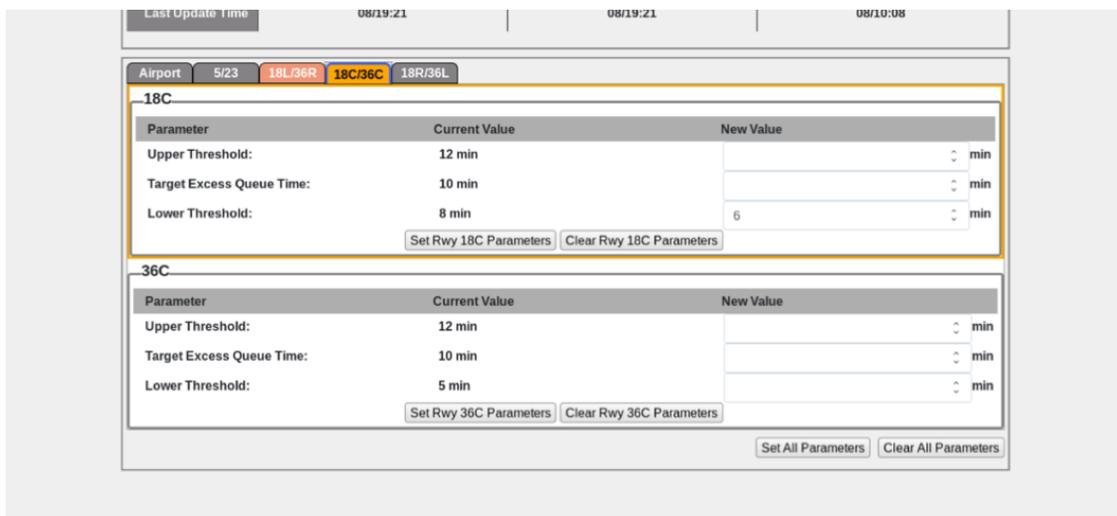

Figure 11. Multiple orange tabs show that changes have been selected for multiple runways.
Step 2b: Click on the ‘Set <Runway> Parameters’ button to accept all changes in the ‘Runway’ tab only. Alternately, the ‘Set All Parameters’ button (below the resource tabs) can be selected to accept all changes across all tabs. An example of multiple tabs with changes specified is shown in Figure 11. When the ‘New Value’ is Set, the ‘Current Value’ will change to display the specified value.